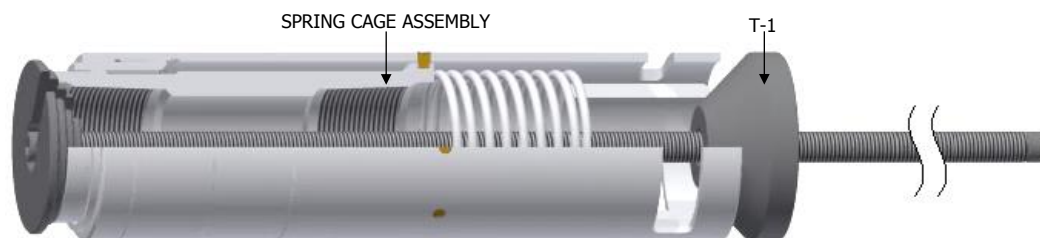

Fig. 2
J-1.16.1) Position assembly tool (T-1) hand-tight against top sub (1) and spring cage (5) of spring cage assembly (Fig. 2).